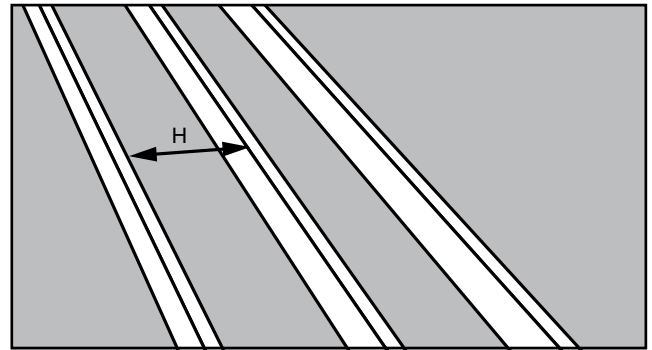

FIGURE 11
- STEP 1.** Measure the header length "H" between the joists (See Figure 11).